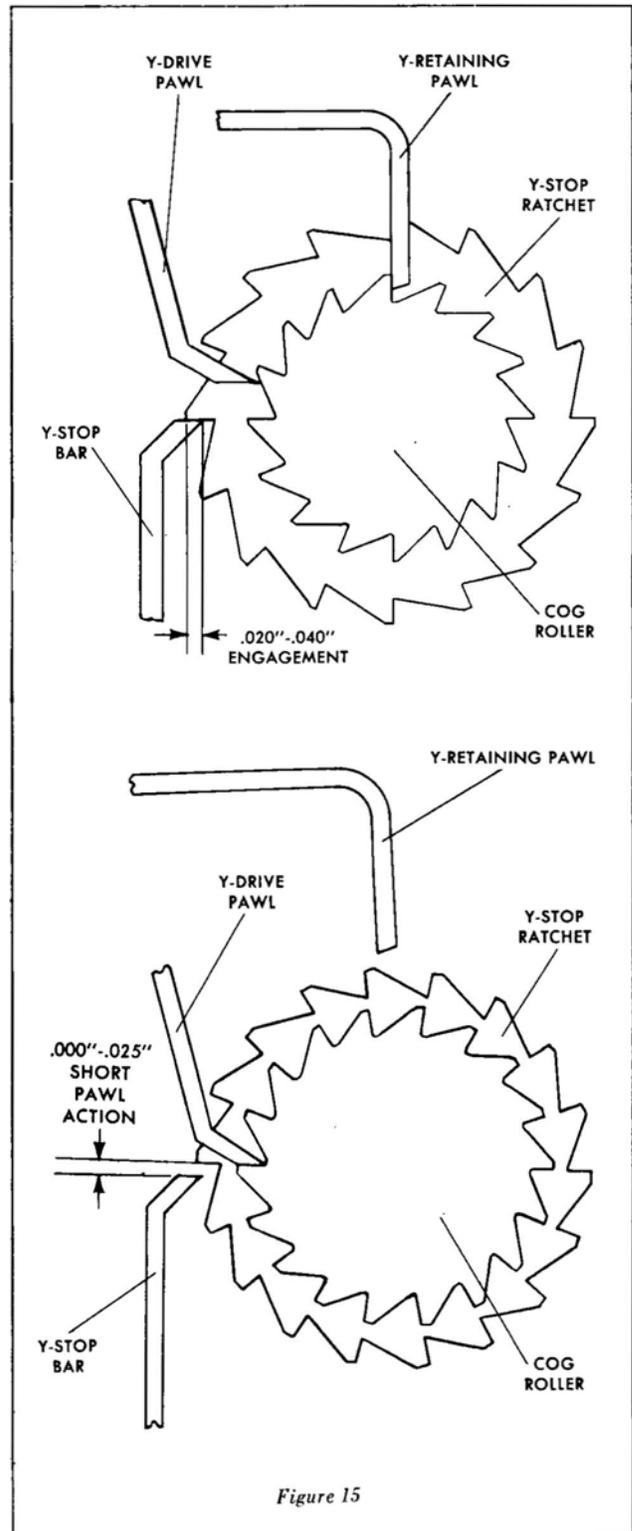

Figure 15
3. "SHORT PAWL ACTION" (See Fig. 15)
Figure 15 illustrates how to measure "Y-Short Pawl Action" and specifies the amount permissible. The amount of "Short Pawl Action" can be varied by loosening the screws holding the Y-Magnet assembly to the mechanism plate and moving the assembly toward or away from the Cog Roller as required. Retighten the mounting screws securely.